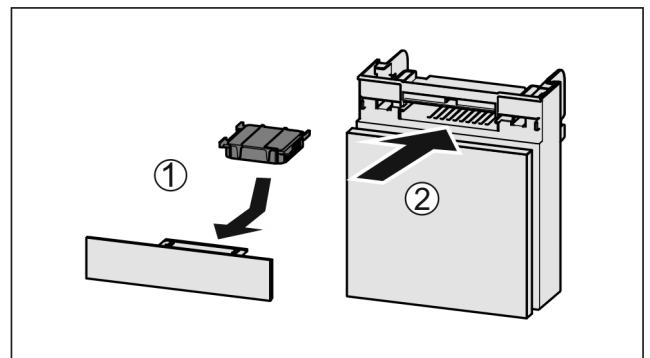

Fig. 88
- ▶ Insert the carbon filter as shown in the diagram Fig. 88 (1).
- ▶ Push the compartment in Fig. 88 (2).